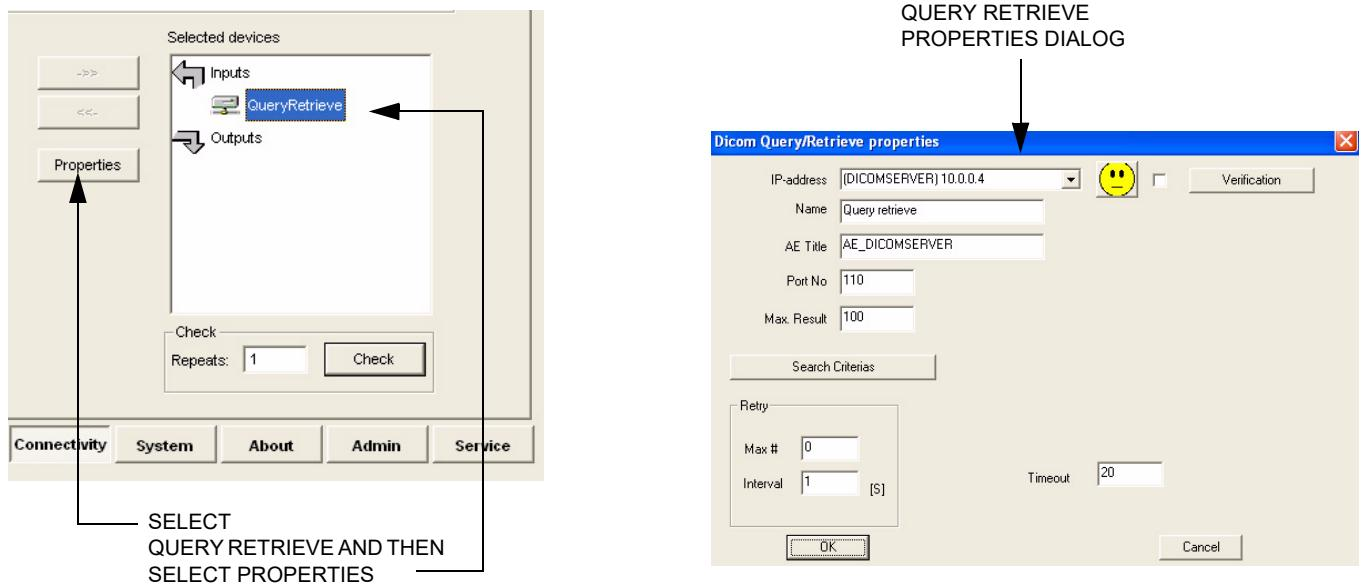

Figure 3-84 Select Query/Retrieve's Properties
- 4.) Select **Query Retrieve** from the *Name* pull-down menu - see Figure 3-84 on page 3-93 .